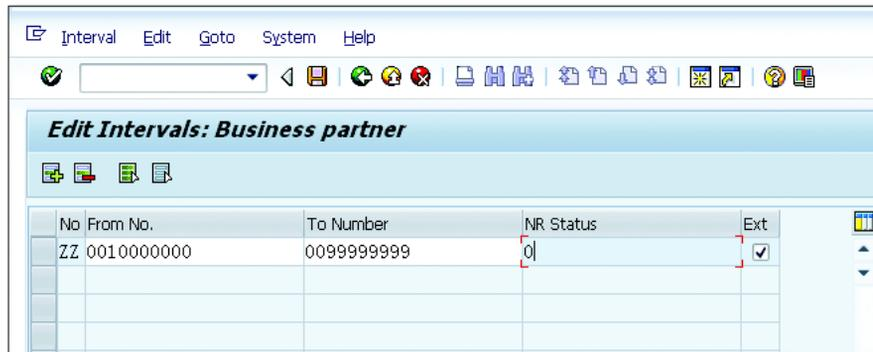

Figure 2.25 Adding Business Partner Intervals
3. Click on the ADD INTERVALS icon (+ icon) (see Figure 2.25).